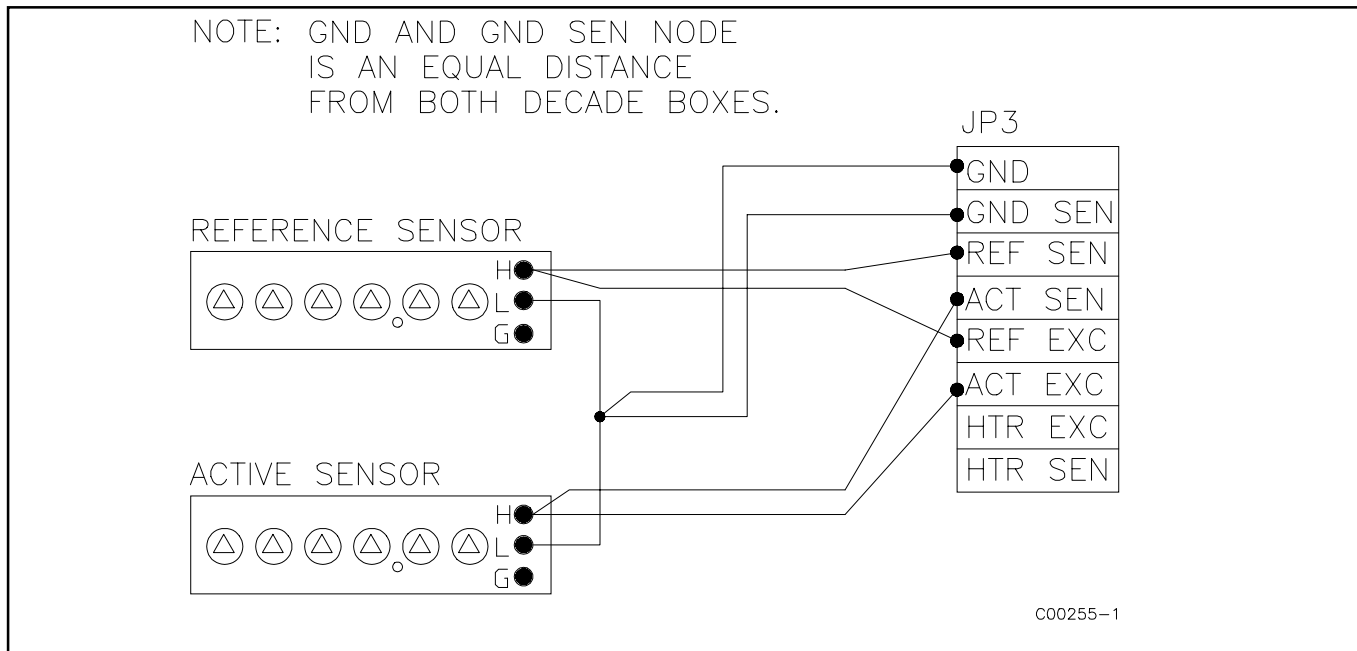

Figure 5-3. Decade Box Connections
3. Disconnect JP3 and connect the decade boxes as shown in Figure 5-3.